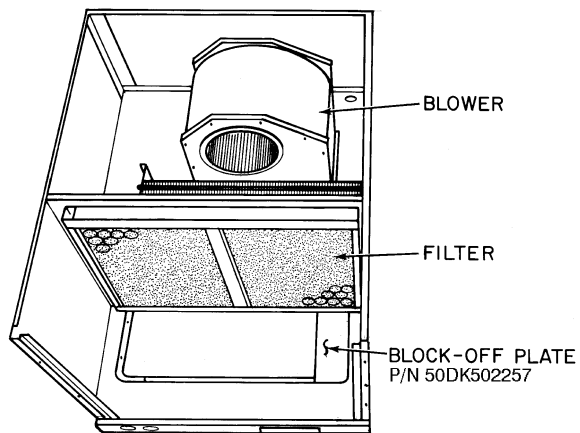

Fig. 20 — Vertical Discharge Block-Off Plate (Sizes 120,150 only)
4. On 012 and 014 units, install vertical discharge block-off plate over duct openings. See Fig. 20.